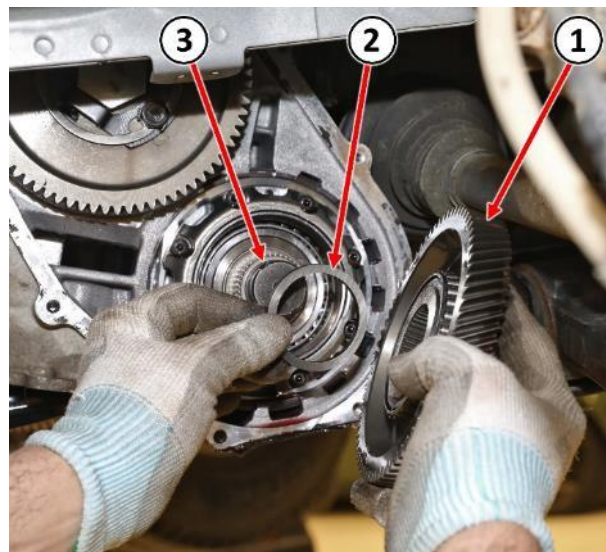

Figure 24 – Transfer Gear and Select Shim
- 36. Remove the transfer gear (underdrive compounder side) (1) and select shim (2) from the underdrive compounder assembly (3) (Figure 24).